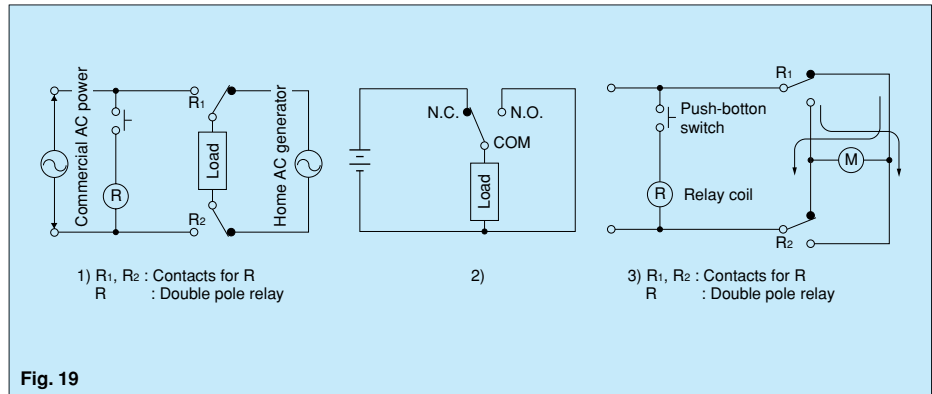

Fig. 19
• Avoid Circuits Where Shorts Occur Between Form A and B Contacts (Fig. 19)